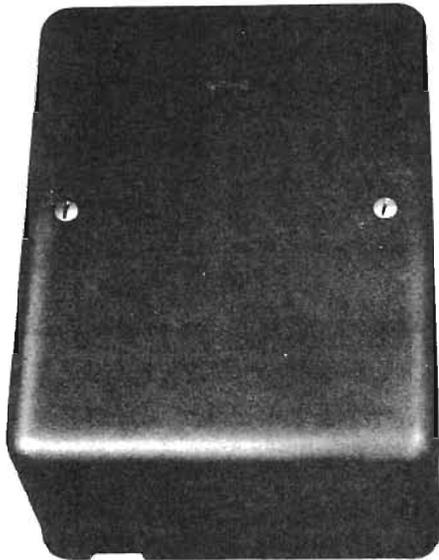

Fig. 10 - J86471A, List 2 Cabinet
**7.07** The ac and dc units may be wall mounted one over another in the J86471A, List 2 cabinet (see Fig. 10).